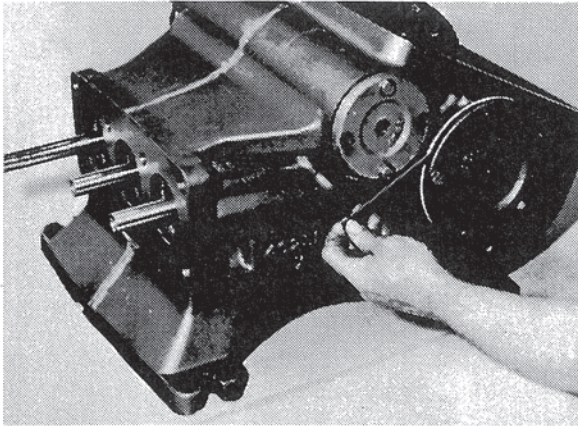

Fig. 11
6. Install left bearing cap with one .015 thick and one .003 thick shim and tighten the eight socket head cap screws to the recommended torque. Rotate pinion shaft back and forth and apply about 15 lbs. axial force to properly seat the tapered rollers. Measure end play by using an indicating gage in a manner as shown in Fig. 11.
- B. Install the left cap without shims, secure with two cap screws positioned exactly as shown in Fig. 11. Torque the two cap screws at 13 foot pounds, rotate the crankshaft, retorque the cap screws. Do this three times to properly seat the tapered roller bearings.